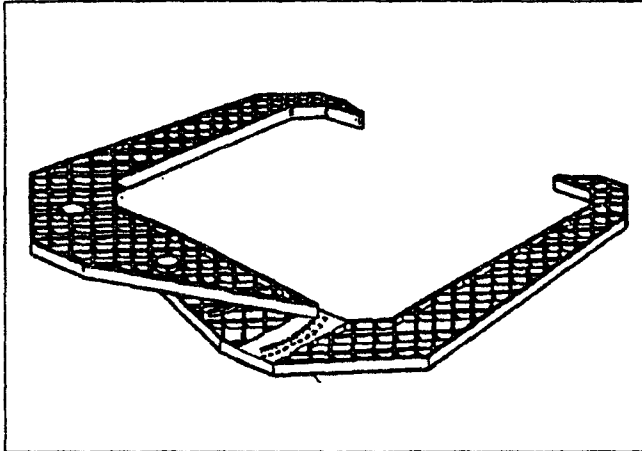

Fig.3
**#4007580 Wheel calliper (Fig.3).**